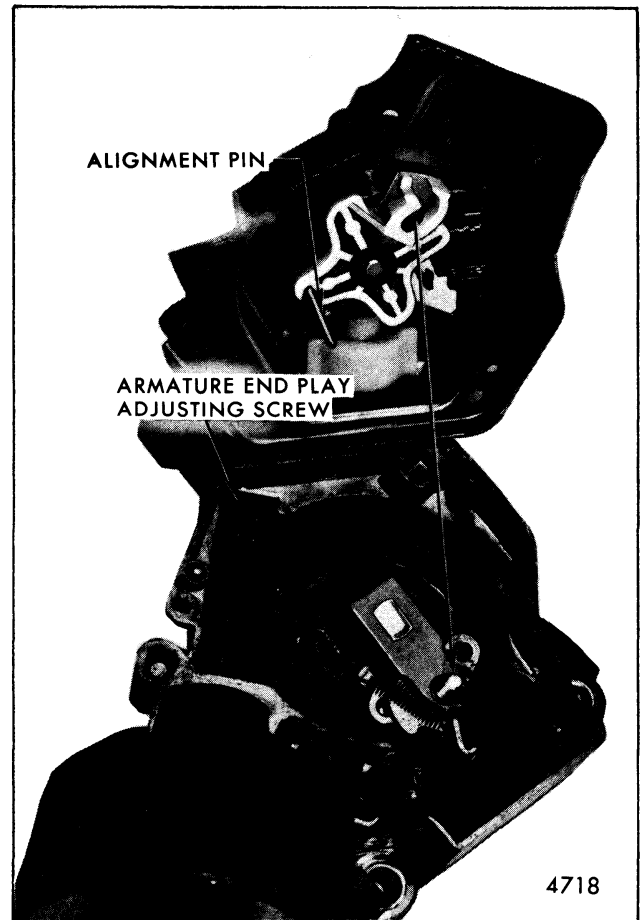

Fig. 2-71-Installing Washer to Pump
**NOTE:** Wiper motor gear must be in PARK position (Fig. 2-71) to assemble pump to wiper motor.
3. Position pump on wiper so that slot in 4-lobe cam fits over the gear drive pin (Fig. 2-71). Secure pump to gear housing and remove locator pin, temporarily connect wiring connector.